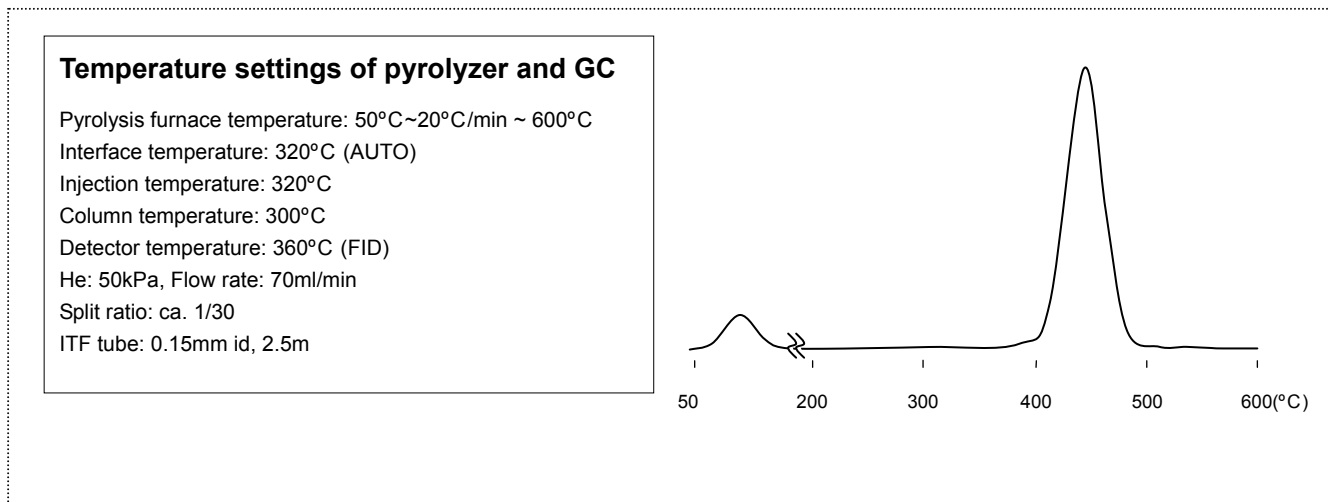
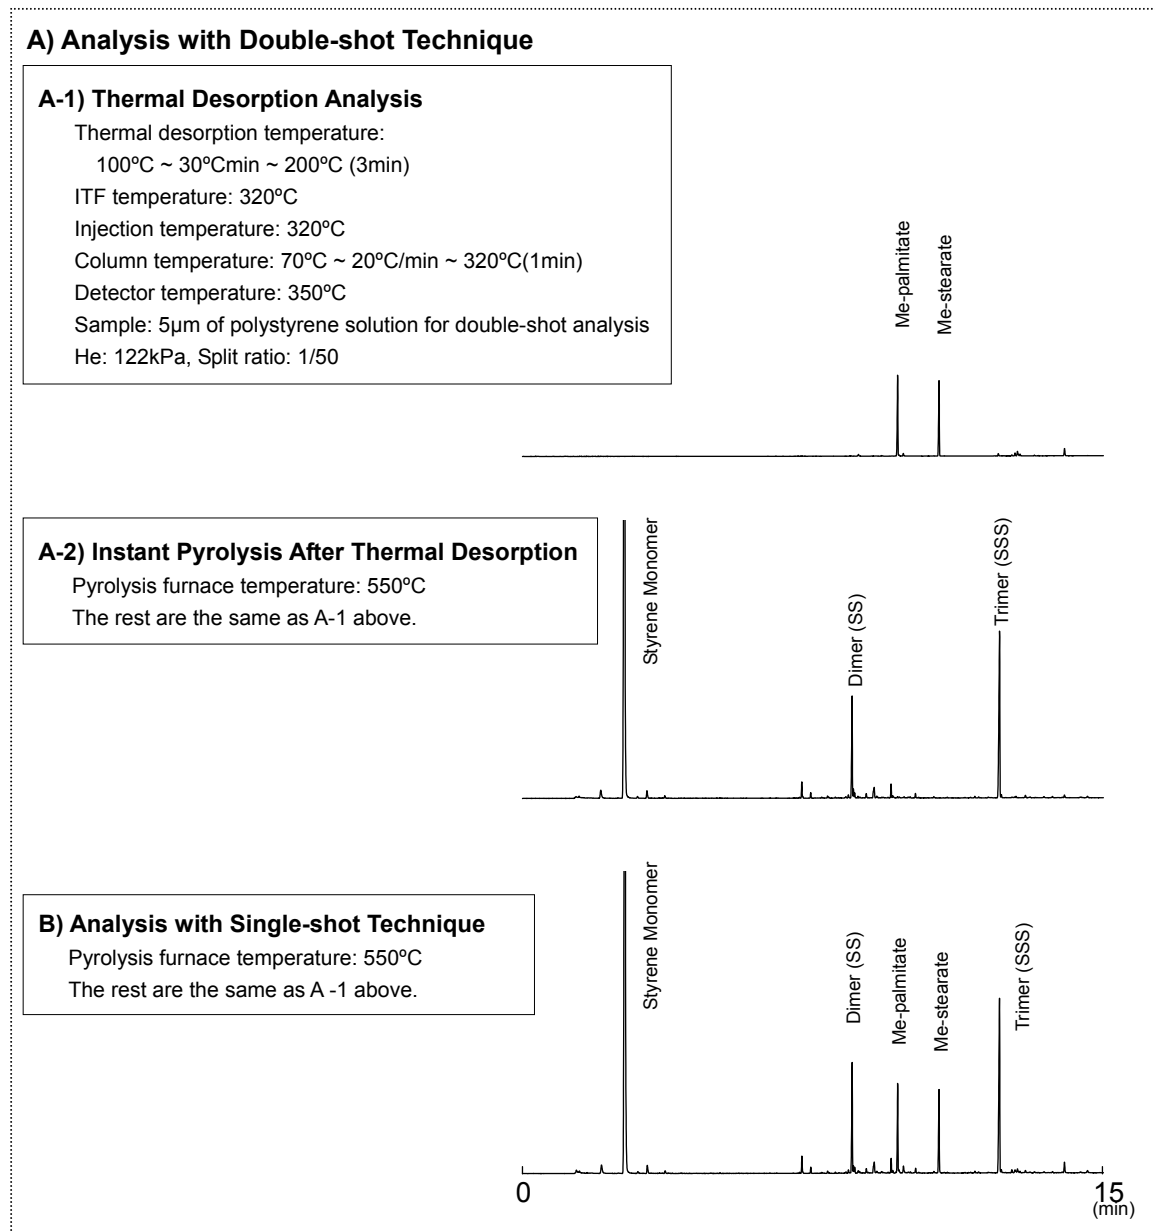

Fig. 7.4.2 Evolved Gas Curve
Fig. 7.5 Comparison of Double-shot and Single-shot Analyses
STEP2 Setting up pyrolyzer and GC (see Fig.7.4.2)
- 2) Select EGA TEMP PRG and enter pyrolysis furnace temperature program described in Fig. 7.4.2.
The result should look like Fig. 7.4.2 From this evolved gas curve the following can be drawn.
From the EGA curve shown in Fig. 7.4.2, the parameters for thermal desorption and free-fall flush pyrolysis are obtained. The results are shown in Fig. 7.5 A-1 and A-2.